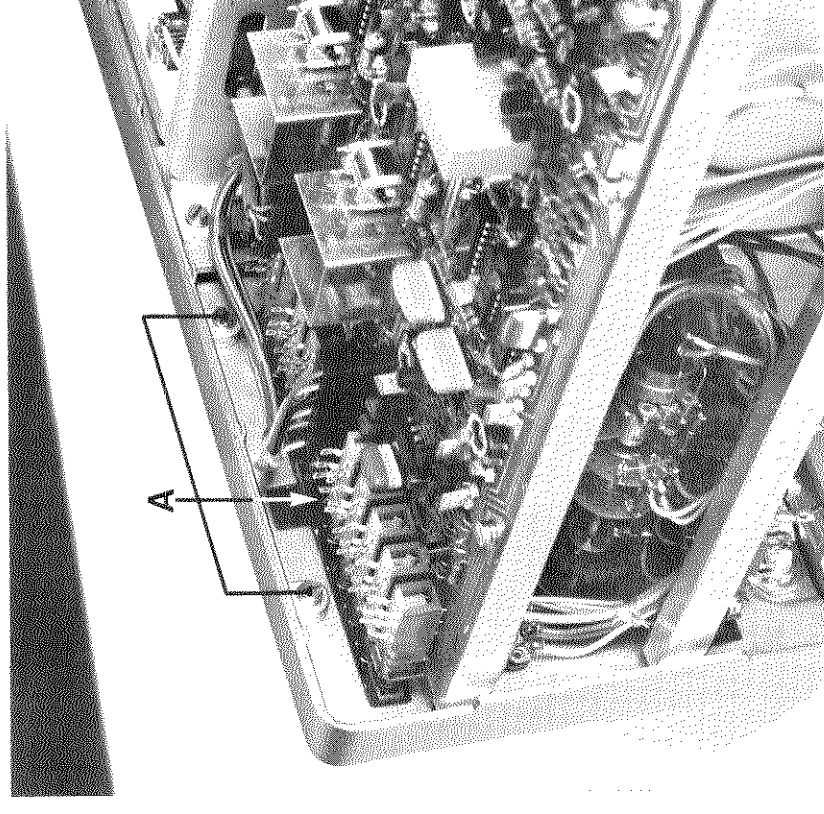

Fig. 3.21. Removing the front assembly (screws A)
- Remove the three screws A (Fig. 3.21).